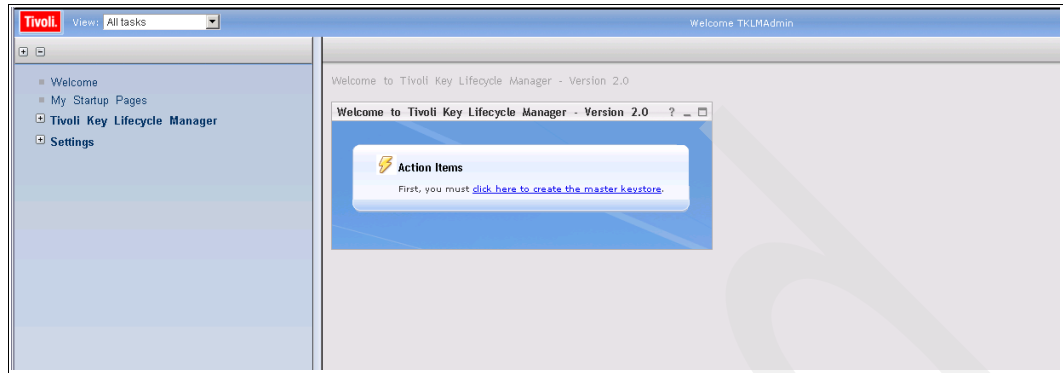

Figure 6-22 TKLM\_v2\_actions\_start
22. The first time you log in you will be prompted to complete the initial TKLM configuration (Figure 6-22). Click **Create the Master Keystore** in the Action Items window.